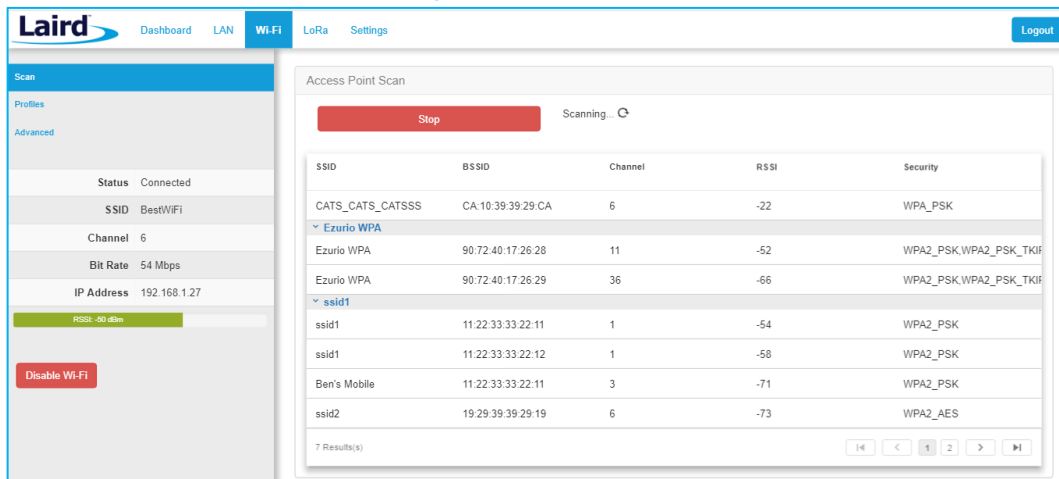

Figure 14: Scan function
1. **Connect to a Wi-Fi network** – click **Scan** to scan for nearby Wi-Fi networks. Scanning continues until you click **Stop** or click on one of the listed scan results (Figure 14).